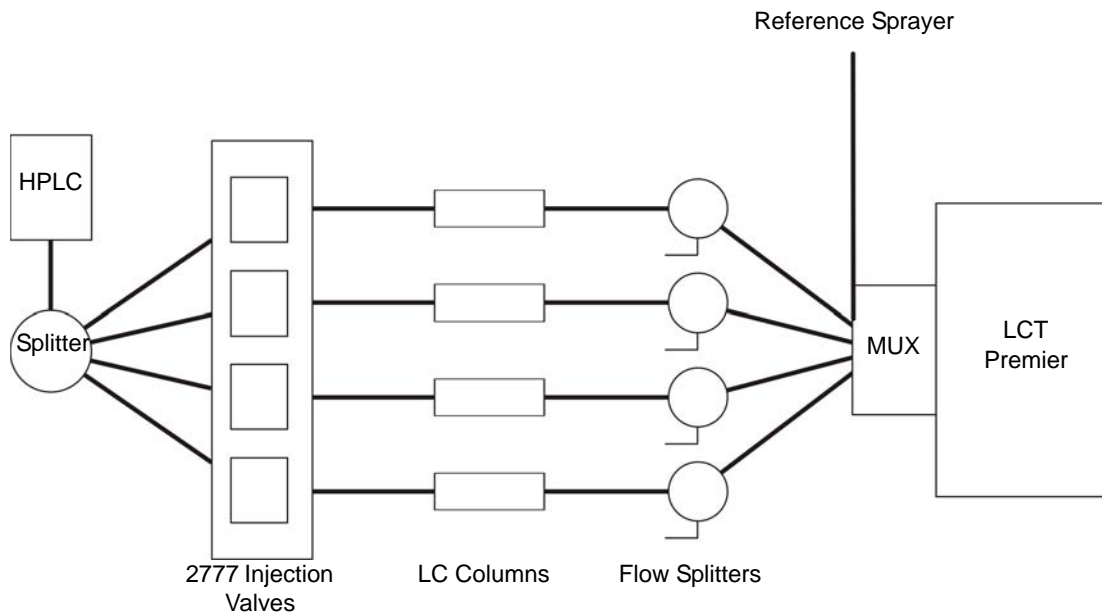

Figure G-2 Plumbing Connections for a Single Waters 1525 Pump and 2777 Autosampler
**Note:** If a single HPLC pump is used, a flow splitter must be used to create four equivalent LC streams (Figure G-2).